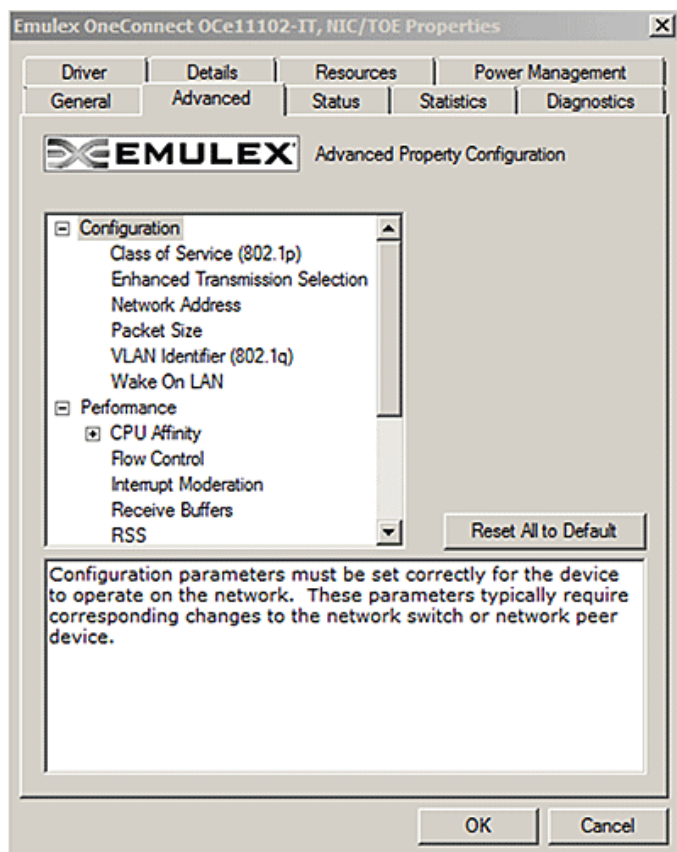

Figure 3-2 NIC/TOE Advanced Properties in Windows Server 2008
3. Click **Properties**, then click the **Advanced** tab (Figure 3-2 on page 58).